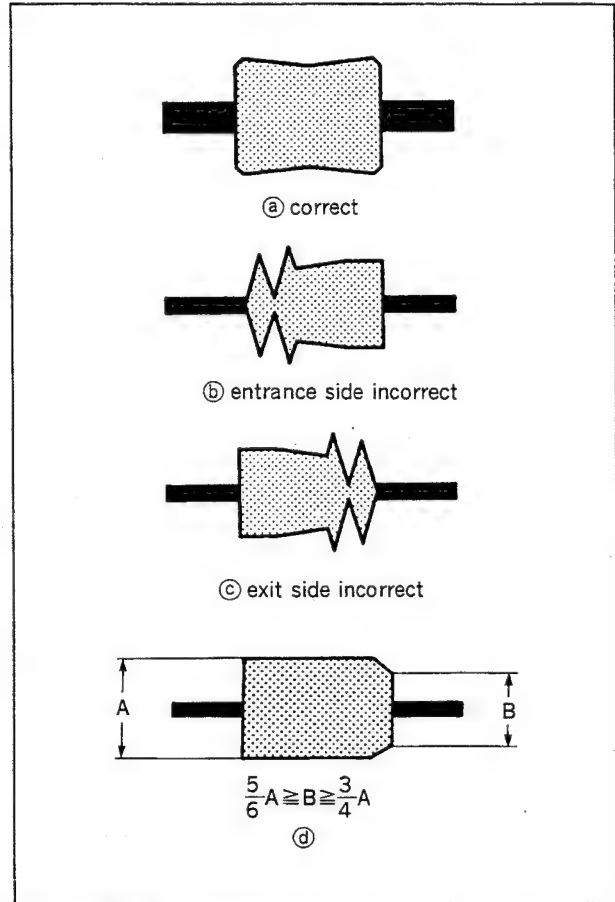

Fig. 6-4 RF wave shape check
Check to see that RF wave shape is flat in both entrance side and exit side of drum (as shown in Fig.6-4 (a)).
Check to see that RF wave shape at exit side meets the specifications shown in Fig.6-4 (d). If it does not meet, go to the adjustments that follow.
- If the RF wave shape at entrance side is not flat as shown in Fig.6-4 (b), go to section 6-2. Tape Entrance Side Adjustment.
- If the RF wave shape at exit side does not meet requirements of above articles (1) and (2) as shown in Fig.6-4 (c), go to section 6-3 Tape Exit Side Adjustment.